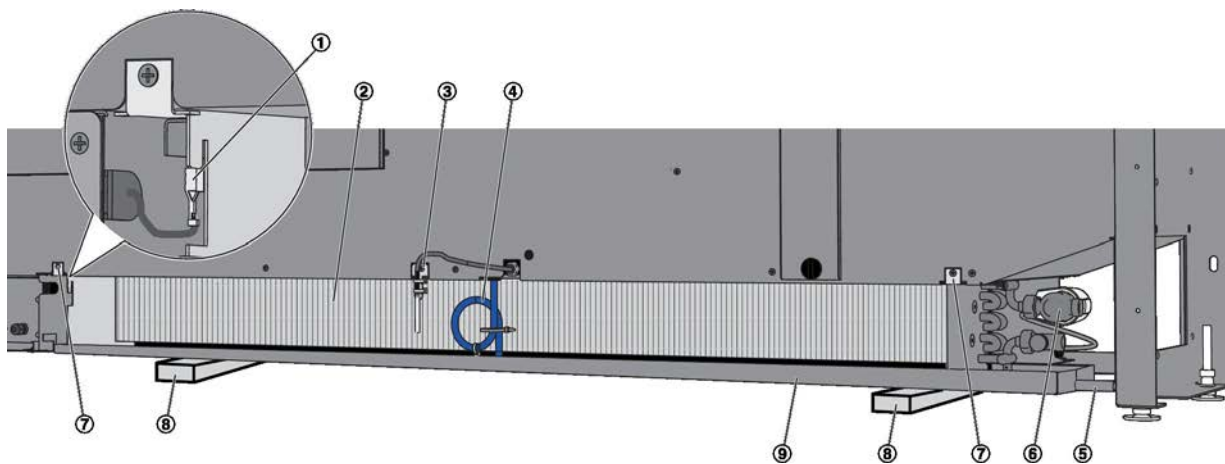

Fig. 24: Removing the heat exchanger
- ▶ Remove the protective earth conductor (Fig. 24/1) from the heat exchanger (Fig. 24/2).
- ▶ Remove the holder for the supply air temperature sensor (Fig. 24/3).
- ▶ Cut the cable ties from the condensate tube, then detach the condensate tube (Fig. 24/4) from the condensate drip tray (Fig. 24/9).
- ▶ Depressurise the water-side connections (Fig. 24/6) and open the screw connections on the heat exchanger. Detach the condensate pipe (by others) from the condensate drain (Fig. 24/5).
- ▶ To prevent the heat exchanger and the condensate drip tray (Fig. 24/9) from crashing onto the floor, support them, e.g. with two blocks of wood.(Fig. 24/8).
Loosen the two Phillips screws of the heat exchanger fixing brackets (Fig. 24/7), then carefully lower the heat exchanger with the condensate drip tray. Pull the heat exchanger and the condensate drip tray towards you and out of the casing.
- Clean the condensate drip tray (Fig. 24/9) with a commercially available cleaner or disinfectant.
- Check that the condensate drain (Fig. 24/5) (optional) is not blocked.